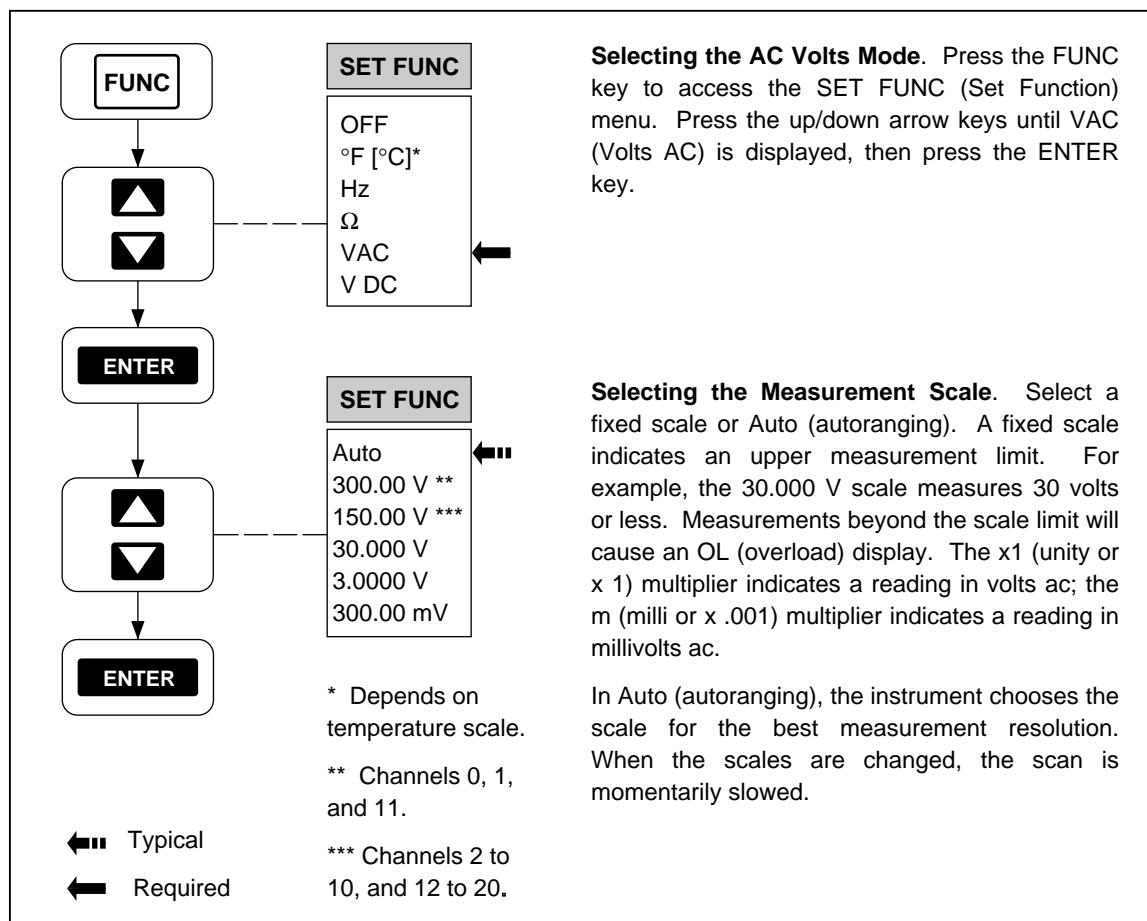

Figure 2-5. Configuring a Channel to Measure AC Volts
- Configuring a Channel to Measure AC Volts (Figure 2-5)
Perform the procedure in Figure 2-5 to configure a channel for measuring ac volts. In preparation, the instrument must be in the inactive mode (not scanning or monitoring) and the desired channel must be selected (see Figure 2-3). To exit at any time (changes not saved), press the **CANCL** key.